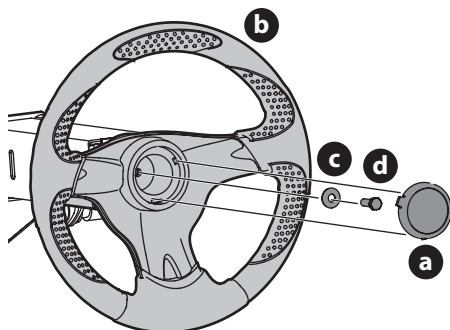

Fig. 6
- Remove the hardware for attaching the steering wheel from beneath the steering wheel cap (a). Carefully pry off the steering wheel cap (a) to remove the hardware (Fig. 6).
- With the wheels of the machine pointing straight forward, place the steering wheel (b) over the steering shaft (Fig. 6).
- Place the Belleville washer (c) over the steering wheel (b) and secure with the hex lock screw (d) (Fig. 6).